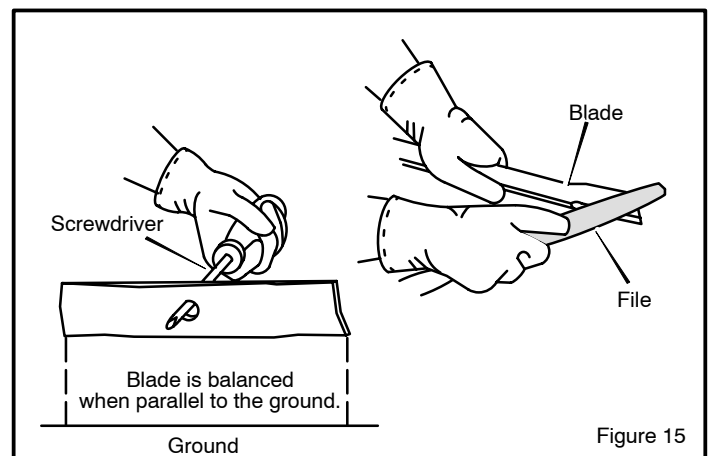

Figure 15
4. Sharpen the **blade** with a **file** (Figure 15). Make sure you keep the original bevel angle.
5. Make sure the **blade** is balanced. Use a **screwdriver** and hold the **blade** parallel to the **ground** (Figure 15). A **blade** that is balanced will stay parallel to the **ground**. If the **blade** is not balanced, the heavy end will rotate toward the **ground**. Sharpen the heavy end until the **blade** is balanced.